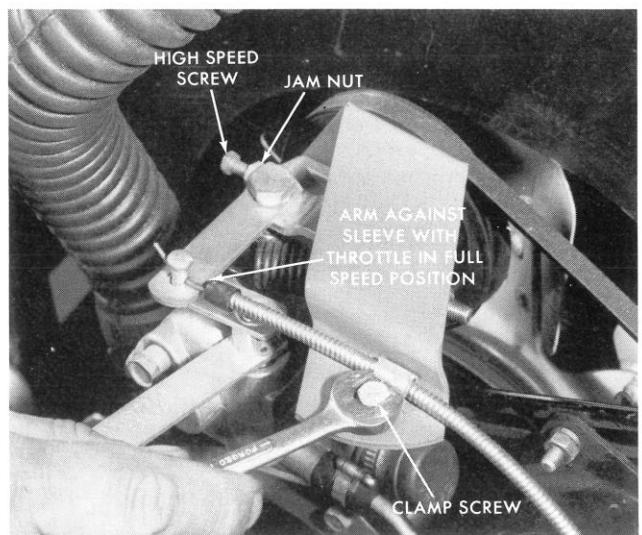

Figure 42
- Place throttle lever in FULL SPEED position. Adjust the high speed stop screw to limit maximum speed at  $3450 \pm 100$  RPM. Secure the adjustment with the jam nut. Figure 42.
- Adjust the bowden wire clamp so the governor arm rests against the sleeve when the throttle lever is in the FULL speed position and lever is against the end of the slot. This will insure that no excessive pressure can be exerted against the linkage causing throttle settings to change. Figure 42.